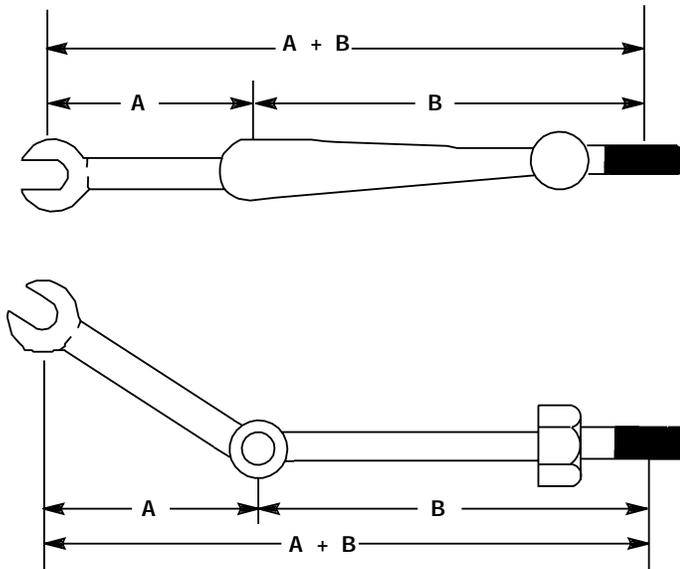

Figure 7-1. Extension Used When Total Length Exceeds Handle Length.
7-5. USE OF AN EXTENSION ON A TORQUE WRENCH. (See figure 7-1 thru 7-3). Whenever possible, the use of extensions on torque wrenches should be avoided; however, where the use of extensions is necessary torque wrench settings can be accurately calculated, as follows:
A - Extension length between center of broached ends measured as shown in figure 7-1 thru 7-3. Use the effective length of the extension
a. When wrenches are used similar to figure 7-1 the equation is: